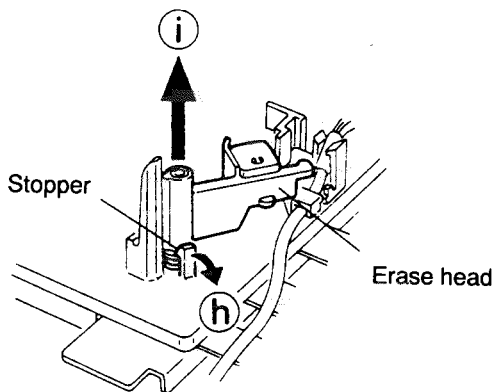

Fig.2-21
■ Removing the Record/Playback head & Erase head (See Fig.2-21 and 2-22)
1. Remove two screws (② and ③) retaining the Record / Playback head.
2. Pull out the stopper of the Erase head in the direction of the arrow ⑨.
3. Pull out the Erase head in the direction of the arrow ⑩.